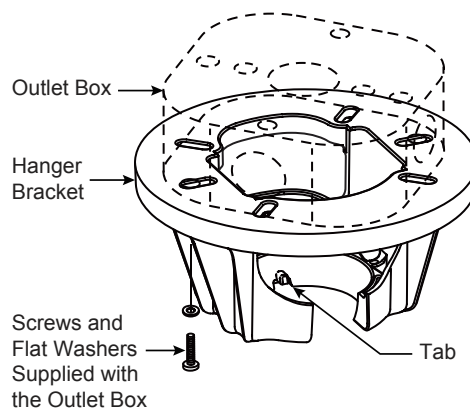

Figure 3
3. Loosen the two set screws and locking nuts in the downrod support of the motor assembly. Route the wires through the downrod. (Figure 3)
- ☐ 1. Securely attach the hanger bracket to the outlet box using the outlet box screws and washers supplied with the outlet box. (Figure 3)
NOTE: Outlet box screws pass through slotted holes of the hanger bracket. (Figure 3)
- ☐ 3. Carefully lift the fan and seat the downrod/hanger ball assembly onto the hanger bracket that was just attached to the outlet box. (Figure 4) Be sure the groove in the ball is lined up with tab on the hanger bracket. (Figure 3)
- ☐ 2. Slide the receiver into the hanger bracket before wiring as shown in figure 3.